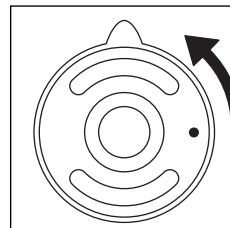

fig. 10
- To pour out the coffee, turn the lid anticlockwise until the (●) symbol is lined up with the spout (fig. 10).
Models with thermal jug: to pour out the coffee, turn the lid anticlockwise until the (●) symbol is lined up with the spout (fig. 10).